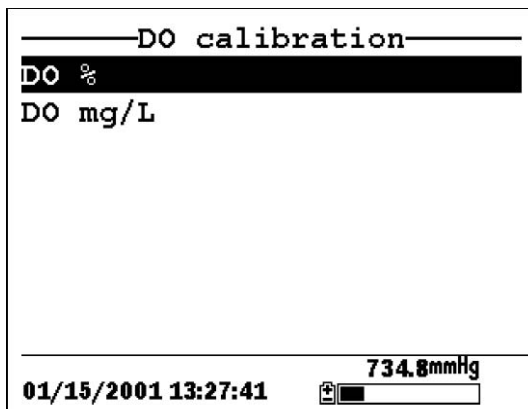

Figure 6.7 DO Calibration Screen
10. Press **Enter**. This returns you to the DO calibration screen, See Figure 6.7 DO Calibration Screen.
10. Press **Enter**. This returns you to the DO calibration screen. See Figure 6.7 DO Calibration Screen.